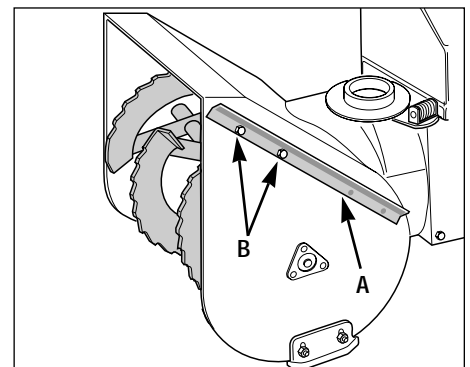

Figure 2-2
1. Remove the four screws (B, Figure 2-2) and locknuts (two on each side) that secure the drift slicers (A) and remove them from both sides of the collector (auger/impeller) housing.